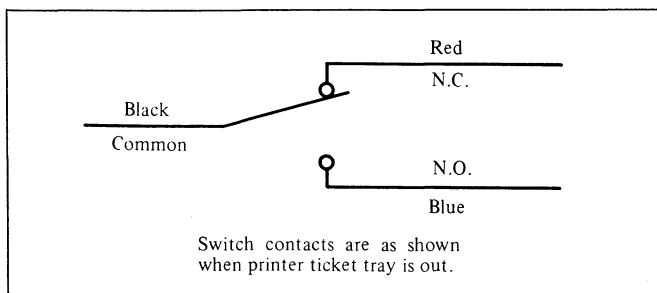

Figure 4. Tray Sensing Switch Connections.
2. After selecting the circuit hookup for proper operation or control, Figure 4, connect to the leads provided.